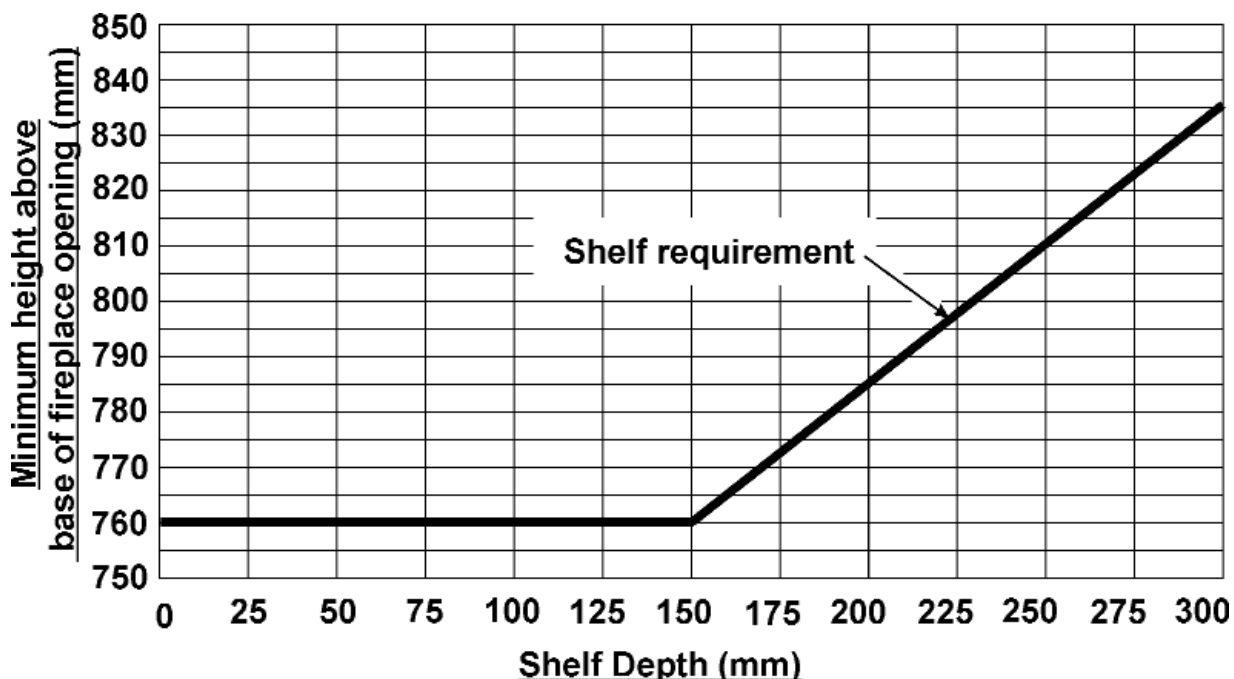

Figure 1. Combustible shelf clearances.
Do provide a minimum clearance as shown in figure 1 above the base of the hotbox to any shelf made of wood or other combustible material.
• *For a shelf deeper than 150mm: 760mm + 12.5mm for every 25mm depth over 150mm (See Figure 1).*